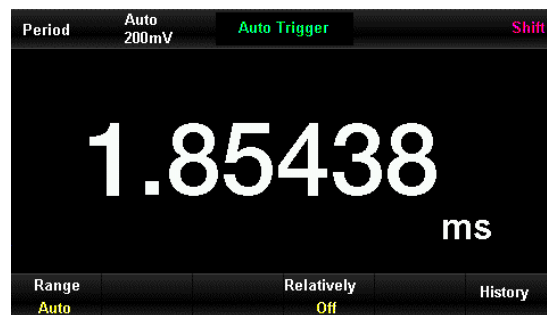

Figure 2-21 Interface of signal cycle measurement
1) Press **Shift** button and then press **Hz** button to enter interface of signal cycle measurement as Figure 2-21.